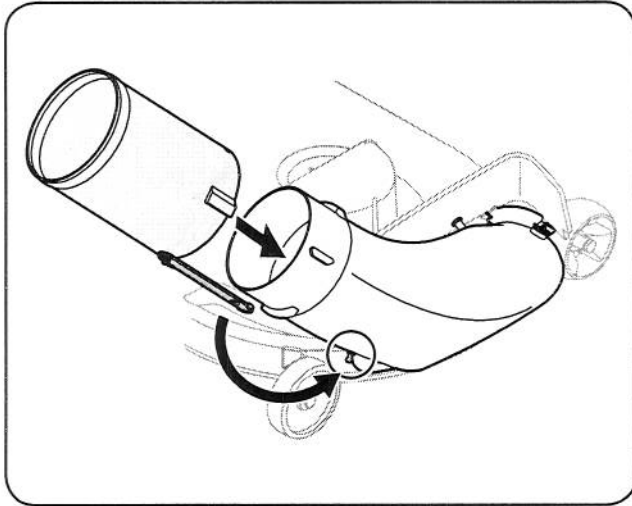

Figure 4-25
15. Install the chute tube extension onto the chute elbow by lining up the tabs and sliding the adapter over the chute elbow, as in Fig. 4-25. Secure the chute adapter by stretching the chute strap and hooking it onto the grass-catcher pin previously installed.